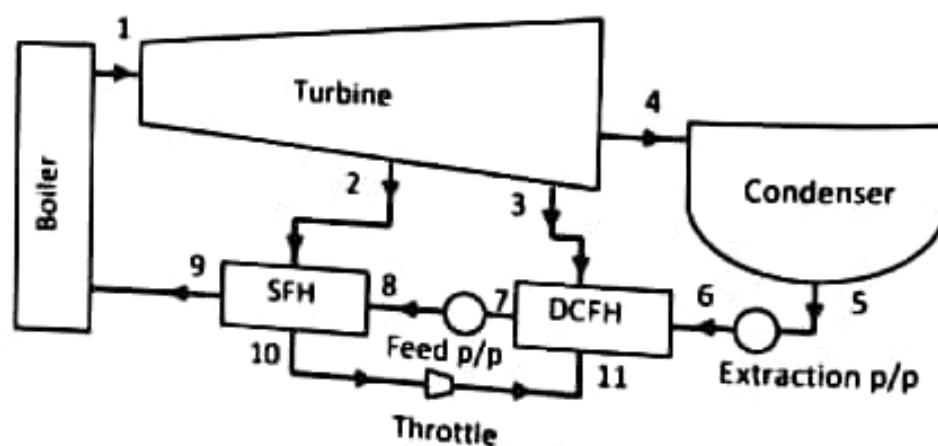

Fig. Q4
4. In the steam plant shown in Fig Q4, steam enters the turbine at a pressure and temperature of 60 bar 580°C respectively. It leaves at a pressure of 0.1 bar and dryness fraction of 0.98.